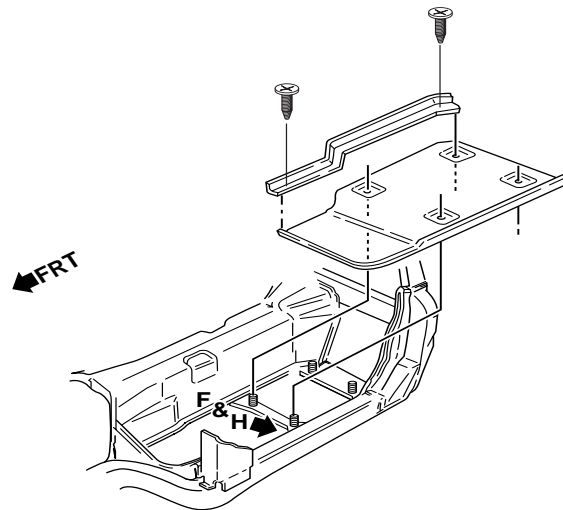

Fig. 3.47 — Trim Screws May Be Necessary to Secure Panel While Adhesive Cures
- 6 Apply adhesive to the floor panel support bracket, and install to attach floor panel to tunnel as in Fig. 3.47. Apply adhesive to the floor panel brace and install as shown in Fig. 3.48. Screw the ends of the brace securely to the floor panel, apply pressure evenly for uniform adhesive 'wet-out' (Fig. 3.47). Apply adhesive to wiring harness clips (3), and install at the etched indicators on the service panel by pressing firmly into place.